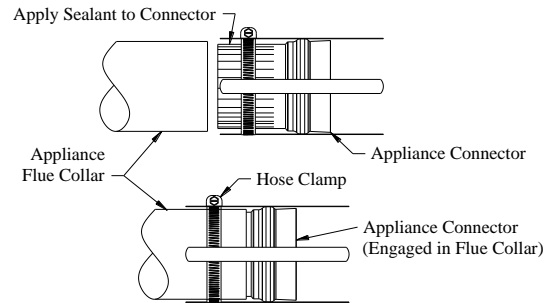

Fig 4. (Installing Appliance Connector)
- a. To ensure a good seal, prepare the connection by applying RTV sealant to the outer surface of the crimped end of the Pipe Connector (See Fig. 4).